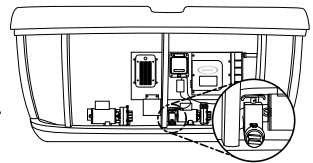

Figure 13.2g
5. Locate the QuickDrain valve, Figure 13.2g.